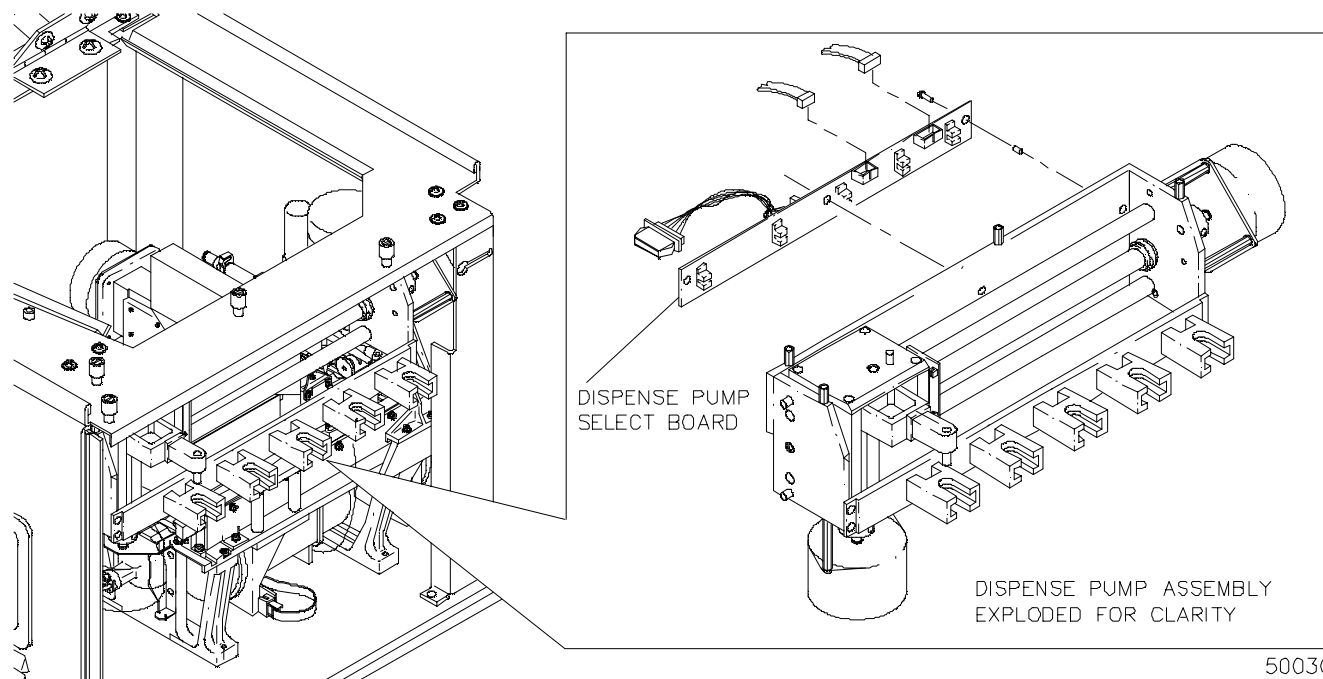

Figure 4-30. Exploded View Dispense Pump Assy
5. Remove Dispense Pump Select Bd mounting hardware from three places (**Figure 4-30**).